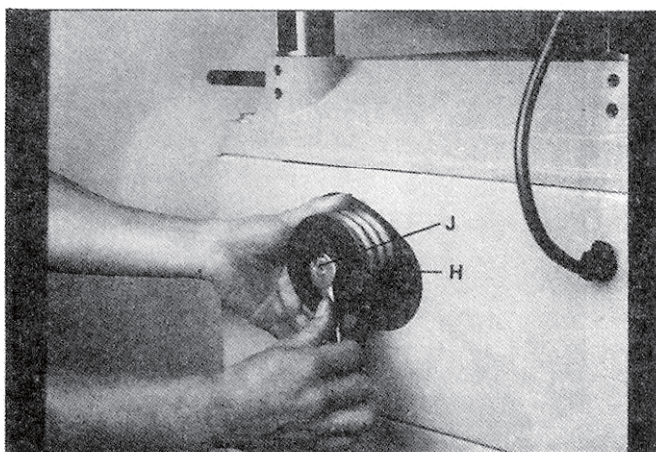

Fig. 12
1. Assemble motor pulley (H) to motor shaft, as shown in Fig. 12. Make sure key is inserted into keyway of motor shaft and motor pulley, and tighten the pulley lock screw (J) using a spanner. two screws in motor pully, using allen wrench (J).